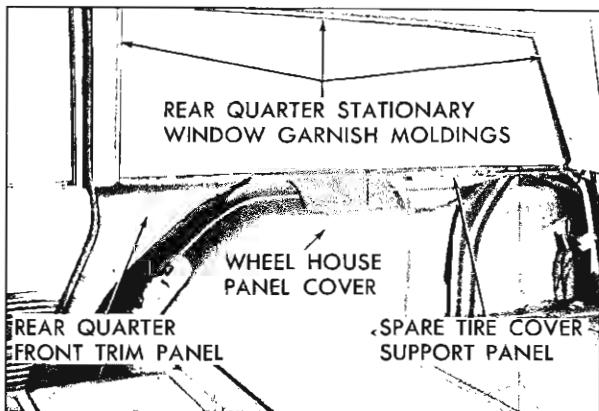

Fig. 4-16 Right Rear Quarter Trim
2. Remove rear quarter front trim panels, rear quarter rear trim panel, rear quarter wheelhouse panel cover, spare tire cover, and spare tire cover support (Fig. 4-16).
3. Remove rear quarter stationary window channel lower retainers (one (1) required for right side, two (2) required for left side), (Fig. 4-16).